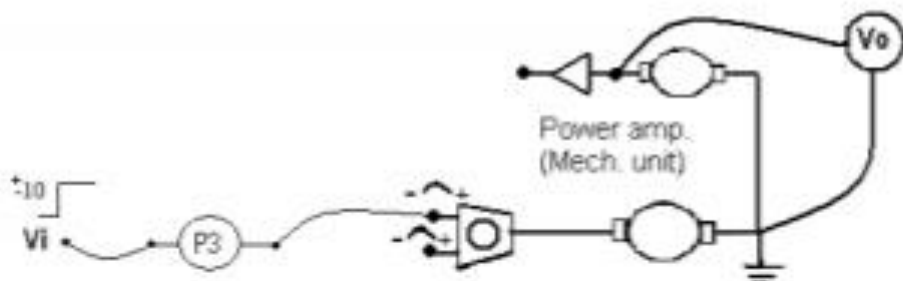

Fig5.2
- 1) Connect the system shown in the fig5.2